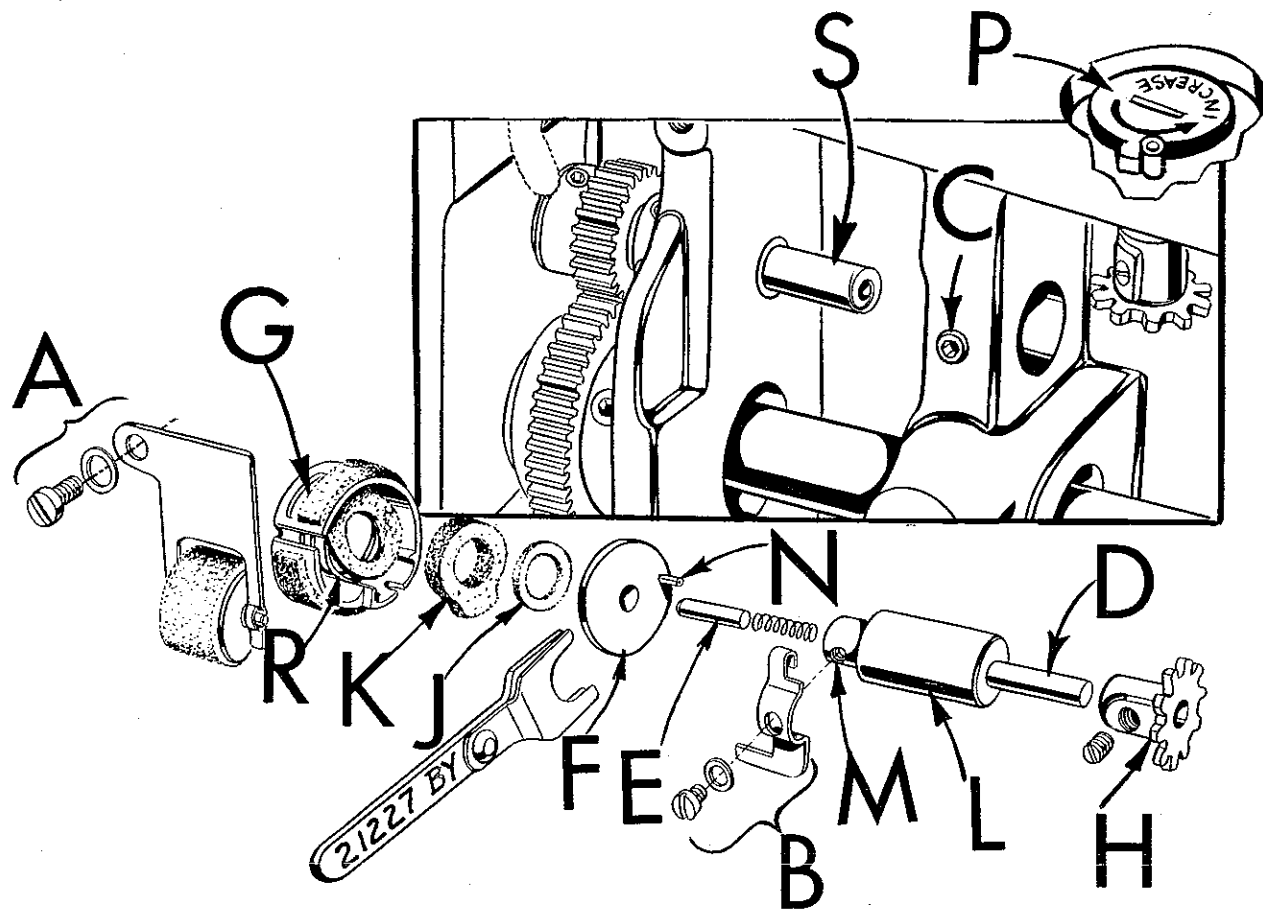

Fig. 22
Hook oiling is accomplished by a high speed rotary pump on the end of the hook shaft. The quantity of oil supplied to the hook is regulated by the longer or shorter path the oil is required to travel through the metering felt of metering cup (G, Fig. 22). (Increase or decrease of oil supply is controlled by a dial (P, Fig. 22) with an arrow marked "INCREASE", found below the cloth plate). The hook oil feed roller (A, Fig. 22) which rests against the metering cup felt serves not only to feed oil to the unit from the oil reservoir, but filters the oil as well.
1. Remove hook oil feed roller (A, Fig. 22).
2. Remove hook oil control finger (B).
3. Apply finger pressure to hook oil control shaft (D) to prevent loss of pump disc pivot pin (E); using Allen wrench, loosen set screw (C). Move assembly slowly to right, being careful not to drop pivot pin located in the end of the hook oil control shaft. When pivot pin is clear of pump disc (F), disc is free to fall.
4. Remove metering cup (G) along with oil supply felt (K) and air seal felt (J).
5. Remove cog (H) from hook oil control shaft.
1. Remove and separate the air seal felt (J, Fig. 22) from oil supply felt (K).
2. Make sure small end of air seal spring (R) is located on boss of metering cup behind felt attached to cup. Position metering cup (G) and air seal spring on hook shaft (S) with open end toward handwheel end of machine (Fig. 22).
6. Insert hook oil control shaft (D, Fig. 22) and its bushing (L) part way into its boss which is located directly behind the hook shaft, being careful NOT TO DROP the pump disc pivot pin (E).